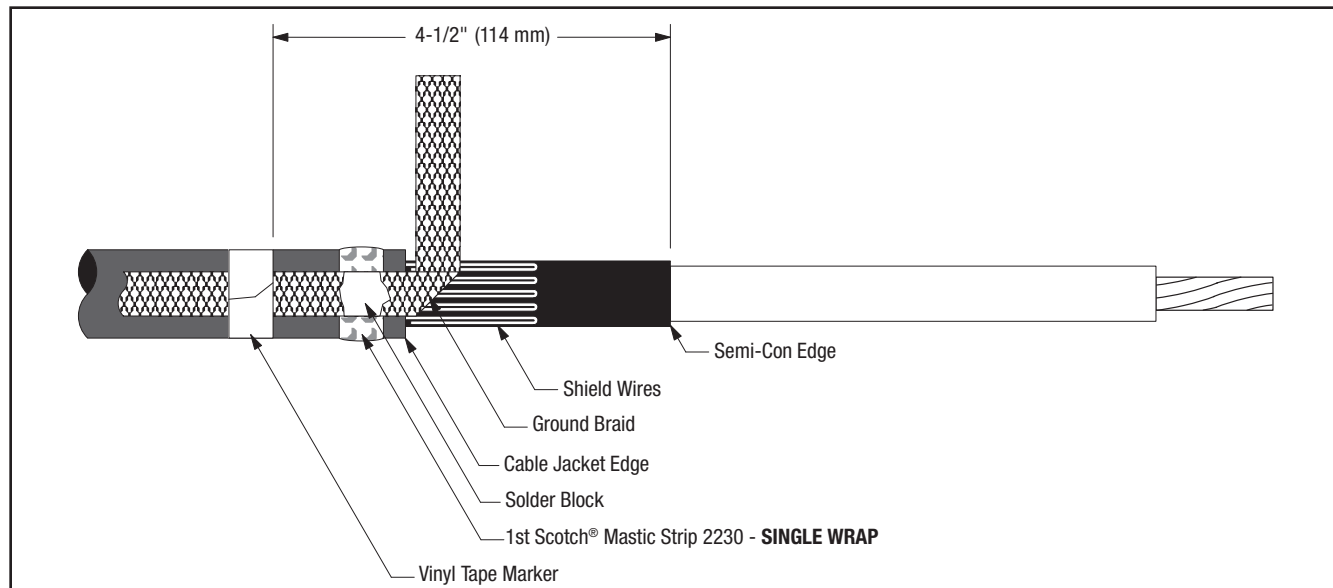

Figure 11
8.2 Position pre-formed ground braid with short tail over wire shield directly adjacent to cable jacket cut edge. PLEASE NOTE: The ground braid needs to make full contact with the shield wires. Position long tail of ground braid, extending over cable jacket with solder block over mastic strip (Figure 11). Secure ground braid to cable jacket 4-1/2" (114 mm) from cable semi-con edge using vinyl tape (see NOTE and Figure 11).